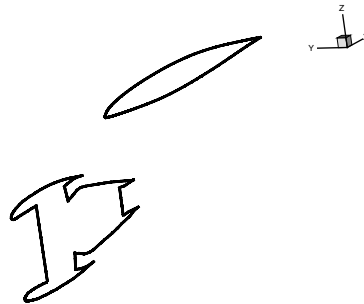

Figure 3-10. A finite-element line resulting from sliced 3-D surface data.
3.3.2.1. Finite-Element Line Data. Plotting connectivity lines between finite-element line data points results in a 2- or 3-D Cartesian coordinate system appearing as a line as shown in Figure 3-10. Unlike I-ordered data, a single finite-element line zone may consist of multiple disconnected sections.